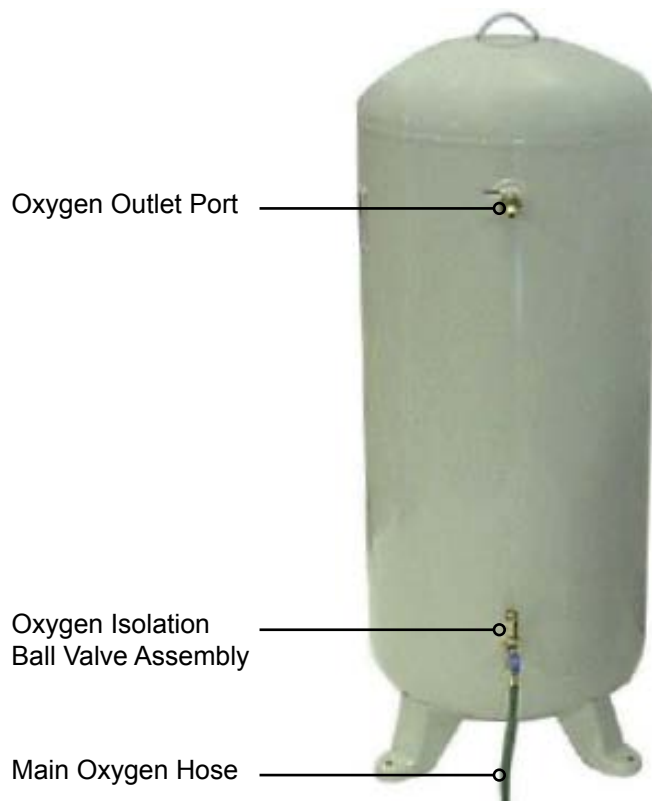

Figure 4.5: Oxygen Receiver
The oxygen isolation ball valve stops the flow of oxygen to the oxygen receiver during troubleshooting. The oxygen relief valve in the assembly prevents excess pressure from building in the oxygen receiver if a system malfunction occurs. This assembly is shipped mounted on the oxygen receiver. See Figure 4.5.
4. Attach the red air hose from the compressor module to the fitting on the left hand side of the PSA module (See Figure 4.5 and 5.1).
6. Attach the main oxygen hose from the supply valve to the inlet of the oxygen isolation ball valve assembly at the oxygen tank (See Figure 4.5 and 5.1).